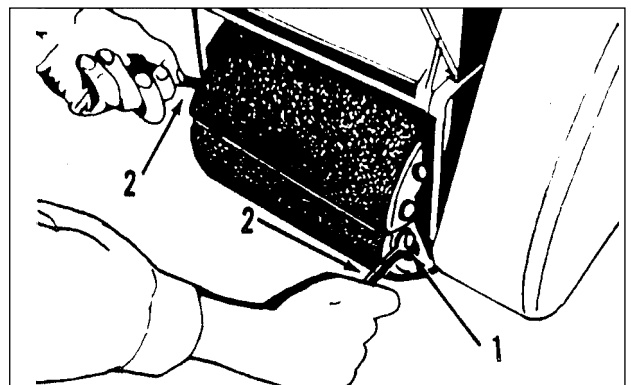

Figure 4
1. The end wrenches are given with the machine. Put a wrench around the nut at each end of the drum (1). See figure 4.
3. Turn the wrenches the opposite rotation until the abrasive is tight against the drum (2). See figure 4.